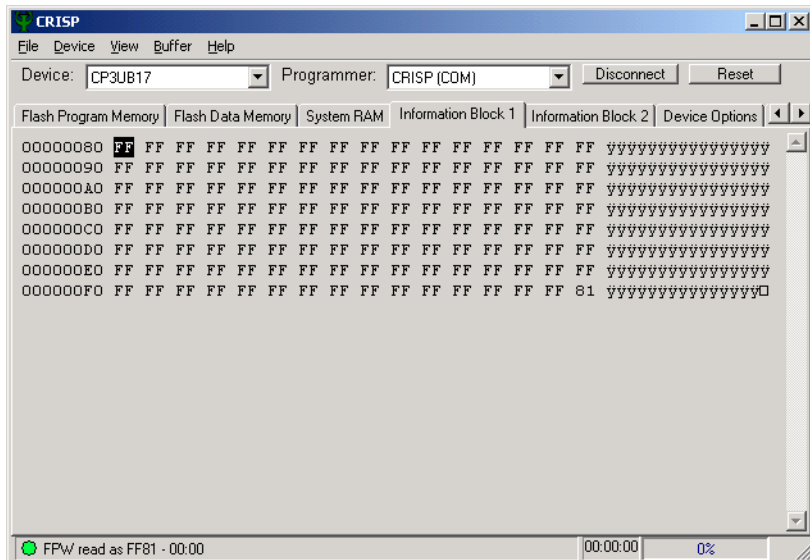

Figure 6-12. Protection Word Settings Displayed in Status Bar
2. **View the Protection Word Settings.** When the Protection Word has been read, its value is displayed in the status bar, as shown in Figure 6-12.